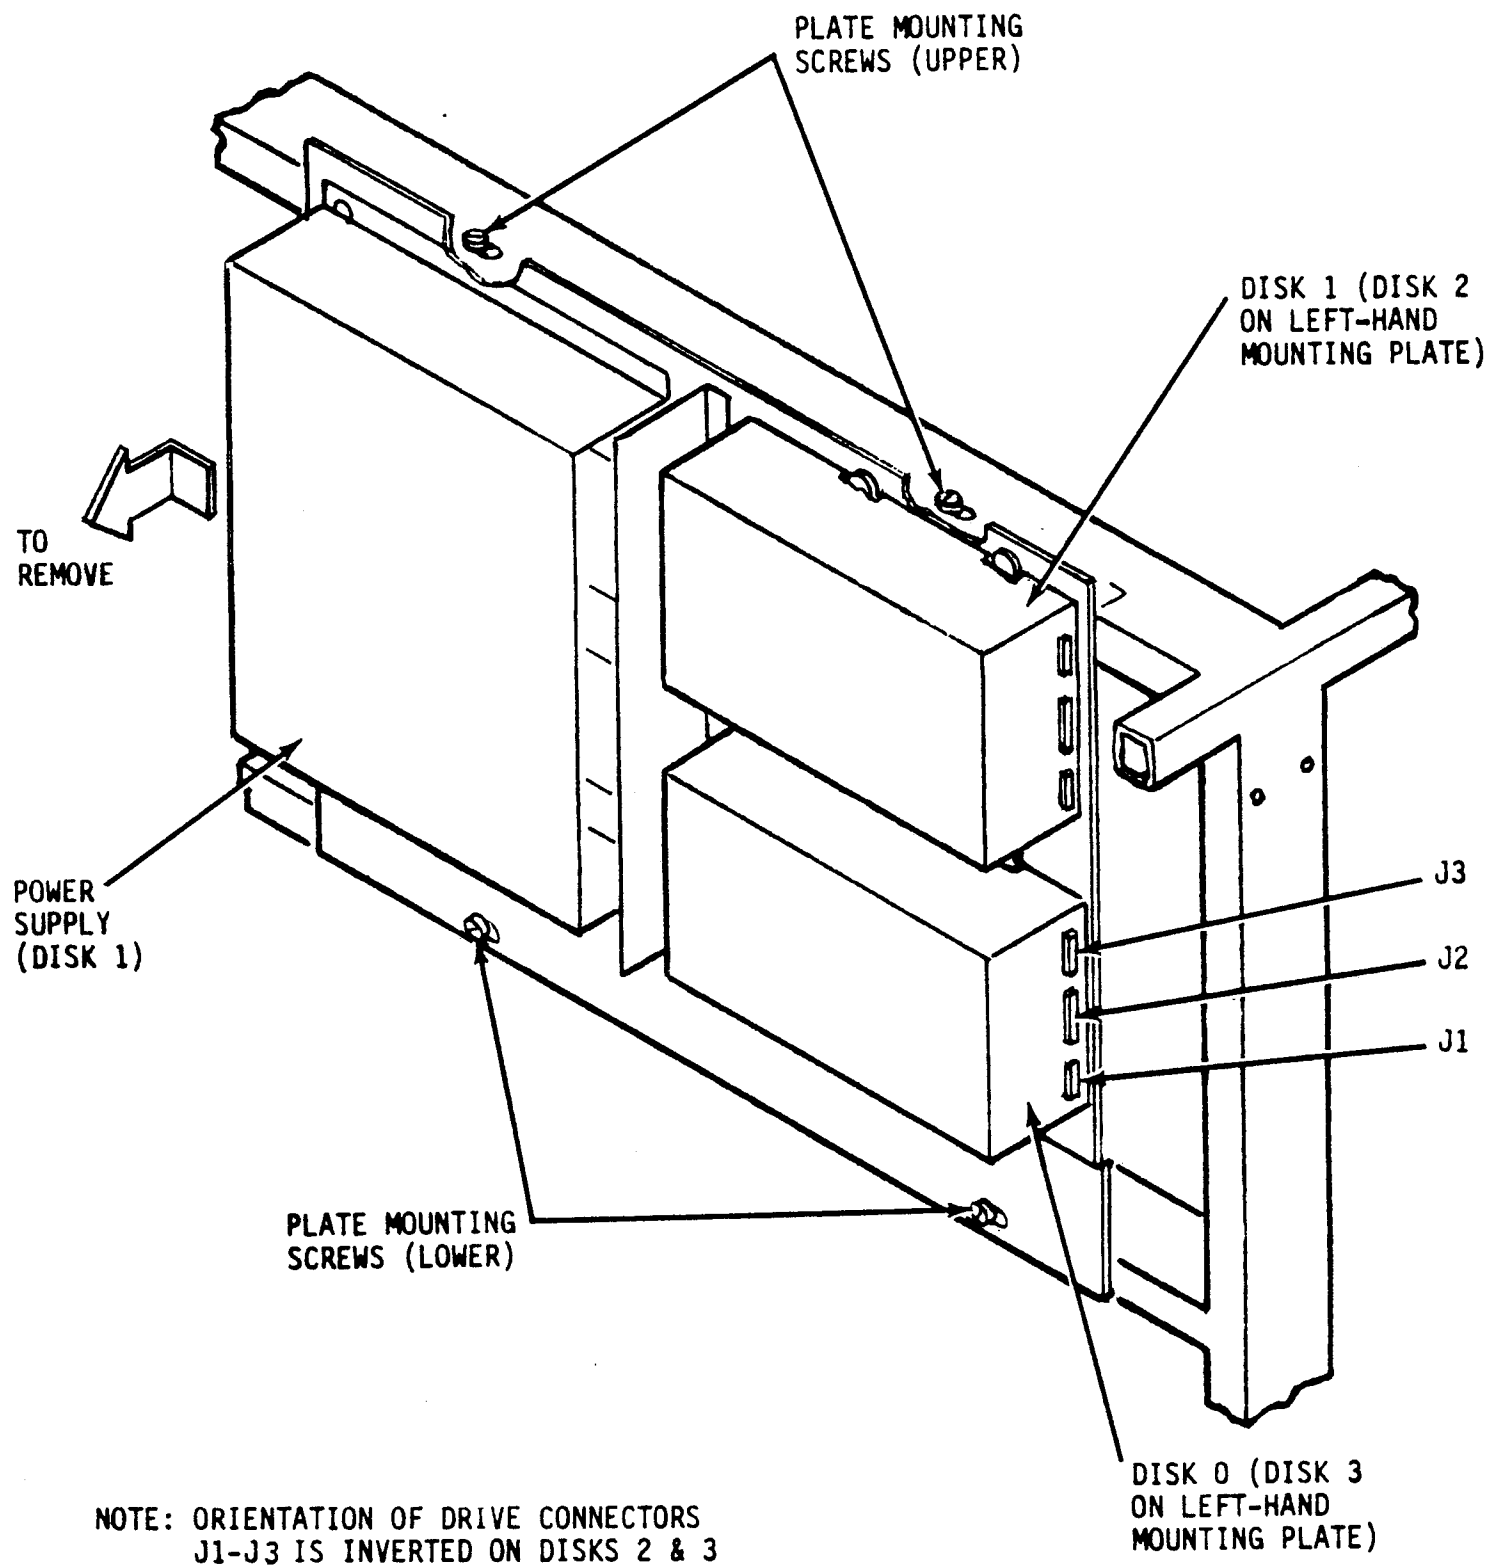

Figure 5-3. Disk Drive Removal/Replacement/Installation, Series 7000 Systems
1. Disconnect power cables from connector J3 on Disk 0 and Disk 1 (see figure 5-3). Tag power cable for Disk 0.
2. Disconnect Disk 1 power supply (figure 5-3) from disk ACDU.
- b. Remove screws that secure cover for Disk 1 Power Supply (see figure 5-3).
- h. Connect hard-wired power cable from Disk 1 Power Supply to connector J3 on Disk 0 (see figure 5-3).